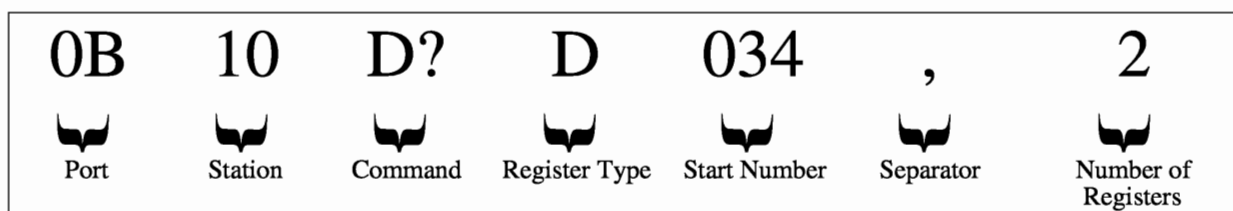

Figure 3-44 Example 6 of Remote Variable Address
**Note 6:** Example in figure 3-44 shows a '**Device/Register Read or Write'** command (depending on trigger condition) issued to an EX2000 device to write to 2 Data Registers starting at register 34.